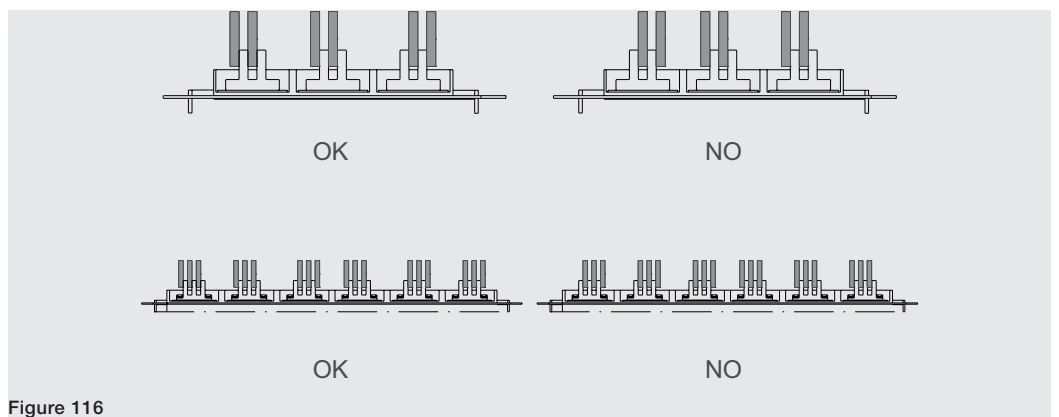

Figure 116
- Make sure that, accordingly to the number of busbars and terminal tangs, the busbars of the lateral phases are as distant as possible from the busbars of the central phase. See the example Figure 116.